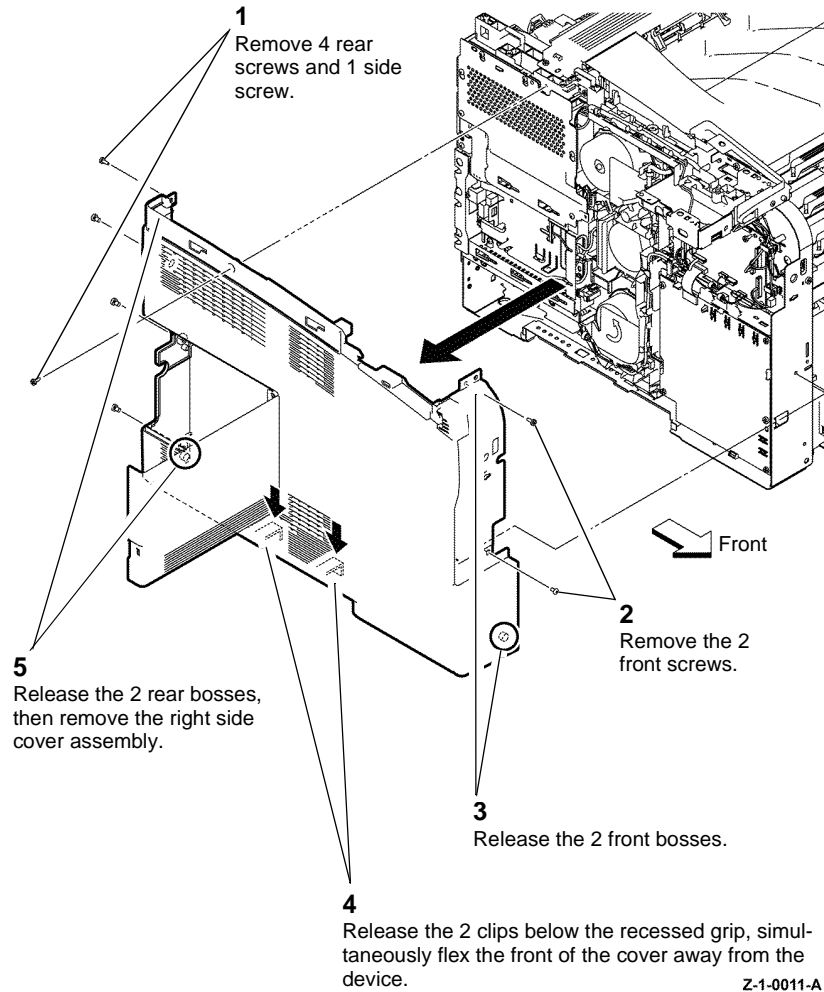

Figure 2 Remove the left side cover assembly C400
- Remove the left side cover assembly, Figure 2.